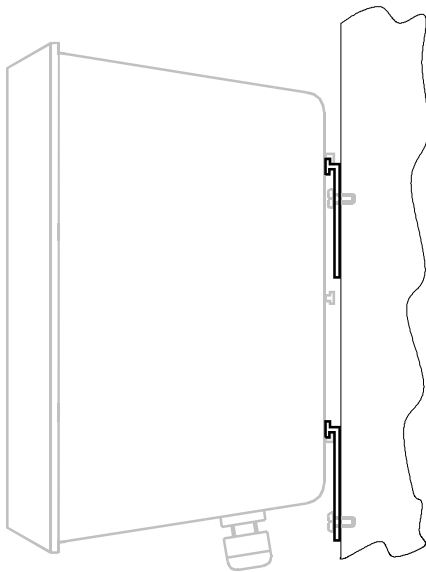

Fig. 1
Figure 1 standard mount. For other mounting brackets, consult factory.
- b) From this relay use the *opening function (NC)*. The relay contact must be closed at stop and be open at start/operation (see Fig. 1):